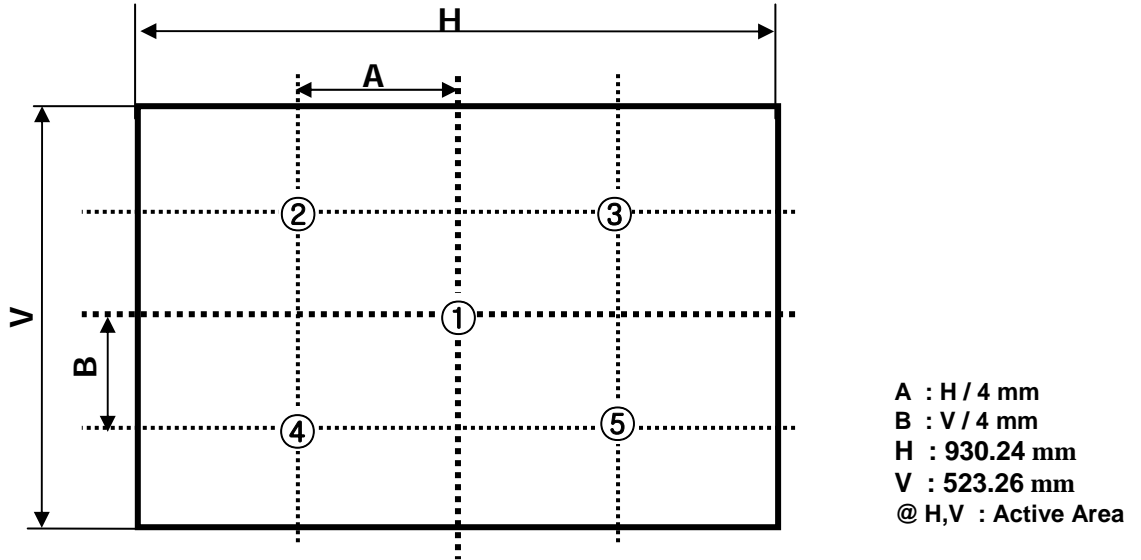

FIG. 2 5 Points for Luminance Measure
Measure Position : 5-point. See FIG. 2 for more information
2. Surface Luminance(L_{WH}) is the luminance value measured after the unit has been turned on for 30min at an approximate 50cm distance from the center 1-point of LCD surface as all pixels displaying white. See FIG. 2 for more information
For more information, see the FIG. 2.